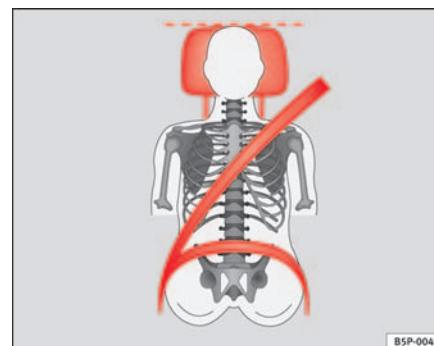

Fig. 12 Correct belt web and head restraint positions, viewed from front
- The shoulder belt must be positioned around the middle of the shoulder. The seat belt must lie flat and snugly on the torso ⇒ page 21, fig. 12.